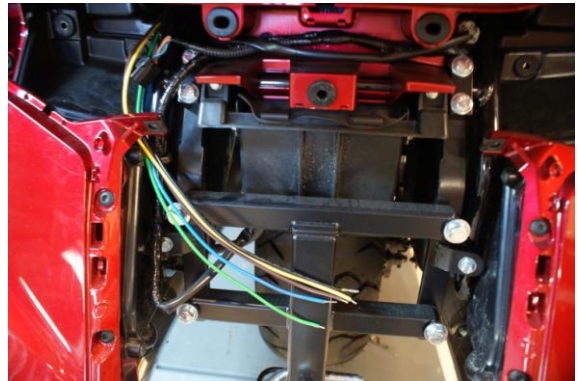

Figure 6
7. Route the five trailer plug wires between the saddlebag frame and the top of the left saddlebag to the rear of the motorcycle. **(Figure 6)**